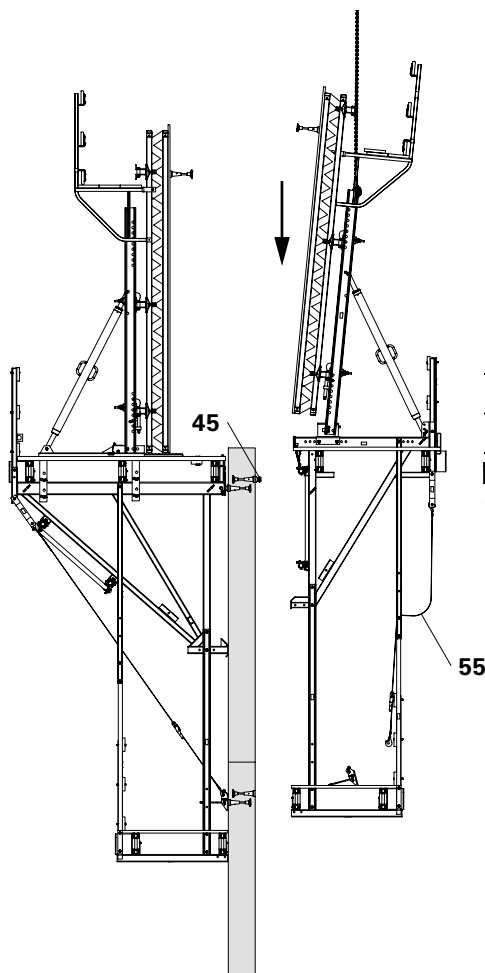

Fig. B1.28
9. Lower the platform unit from the structure and attach it to the Scaffold Mounting Ring (45) for the next climbing cycle. (See Section B4)
10. Close the planking on the finishing platform. (Fig. B1.28)
11. Mount missing Bolts ISO 4014 M16 x 130-8.8 (48) and Nuts ISO 7042 M16-8 (49). Tighten bolts.